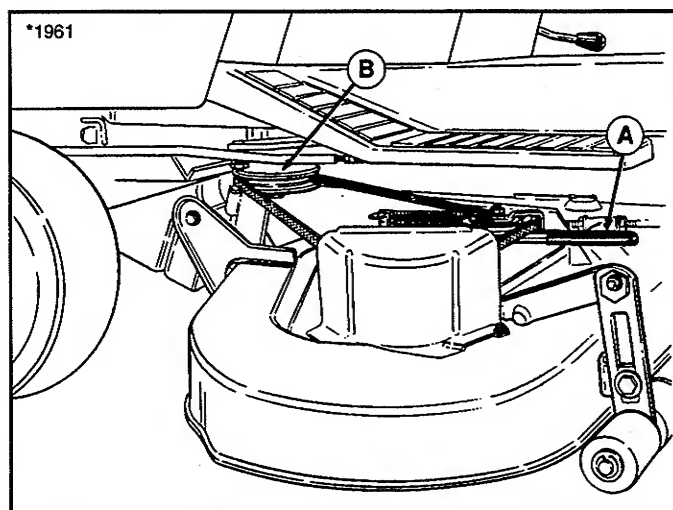

Figure 9. Installing Belt
- See figure 9. From left side of tractor, pull idler arm (A) towards you to relieve belt tension. Install belt onto the PTO pulley (B).
- Turn wheels straight ahead. Pull back on spring-loaded idler arm (A, figure 9) and lift mower hitch off of the tractor brackets.